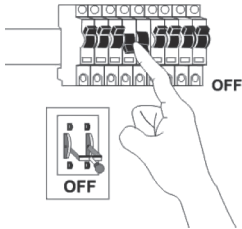

Fig. 1
1. Turn off the power at the main switch in fuse box before beginning the installation (see fig. 1).